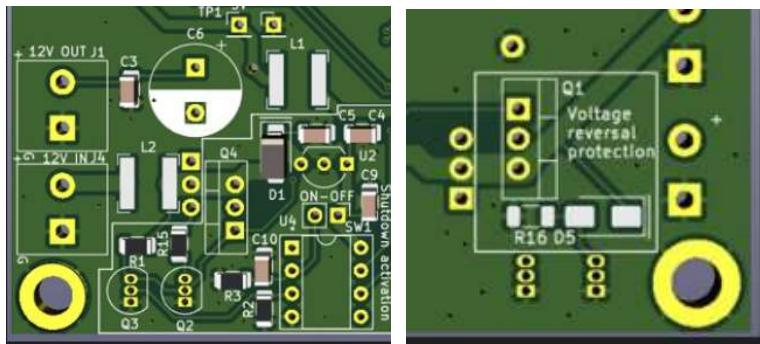

Figure 3. On-Off Switch and Reverse Voltage Protection Options.
OPTION 3: The on-off switch module is a clever way to electronically turn the T41 radio on and off with a FET. Like the V010/V011 power supply board, the basic design also provides reverse polarity protection. It also incorporates a small ATTINY85 processor programmed to communicate with the Teensy such that when the off button is pressed, it tells the Teensy to execute a “shutdown” routine with user code (examples: save selected parameters, last band and mode, volume, etc., custom shut down screen, stay active with screen saver, etc.). When the Teensy has completed the shutdown routine, it communicates back to the ATTINY85 to complete the shut down and turn the radio off. See Figure 3.
1. Mount two **SMD** parts (**D5** and **R16**) on the backside of the board first **ONLY IF** you have opted to use the reverse voltage protection instead of the clever soft on-off routines. Both are clearly marked as **D5** and **R16**. Remember... mount EITHER the **BLUE** parts or the **RED** parts but not both (blue part designators here are for just reverse polarity protection on the bottom side of the board, while **RED** are just for the on-off power control on the top side of the board, and **BLACK** are for either option). See Figure 3.
5. Mount the thru-hole parts except for the voltage regulators (U1 and U3) including the female headers for the Teensy and for **U4**. Mount **U2**, **Q2**, and **Q3** if used. See Figure 3.
10. Solder an 8-pin DIP socket or socket pins at **U4** on the board and mount **U4**. See Figure 3.